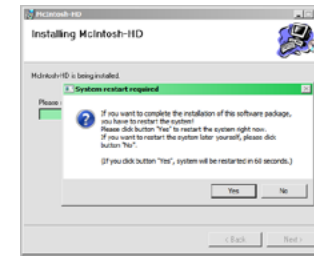

Figure 5
3. When the software has been installed, it is necessary to re-boot the computer. Refer to figures 5 and 6.